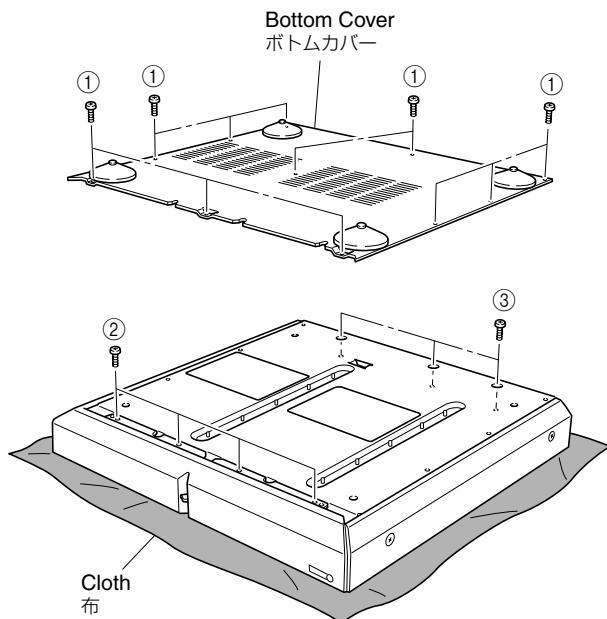

Fig. 1
- b. Remove 11 screws (①) and then remove the Bottom Cover. (Fig. 1)
- a. Remove 4 screws (②) and 3 screws (③). (Fig. 1)
(Fig. 1)
- a. ②のネジ4本、③のネジ3本を外します。(Fig. 1)